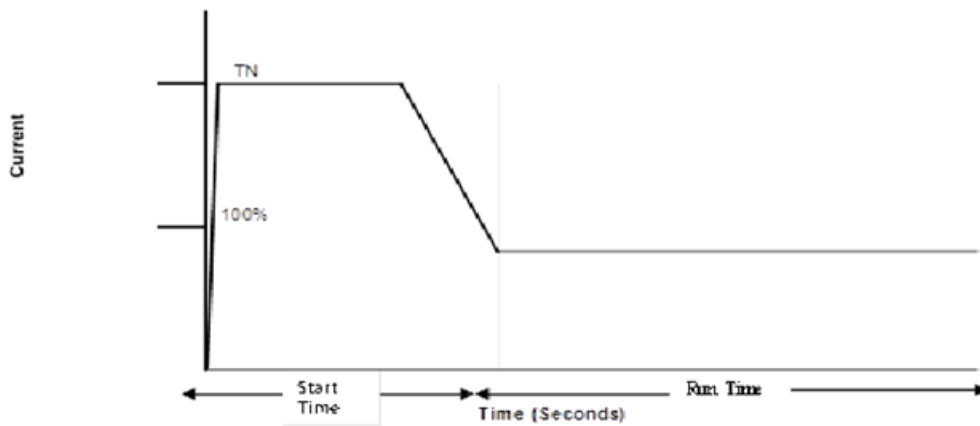

Figure 2. – Current Limit Soft Start
(2) Current-Limit-Soft-Start
- In this soft start mode, the maximum current provided to the motor is limited to a percentage of the FLC setting (See Figure 2).